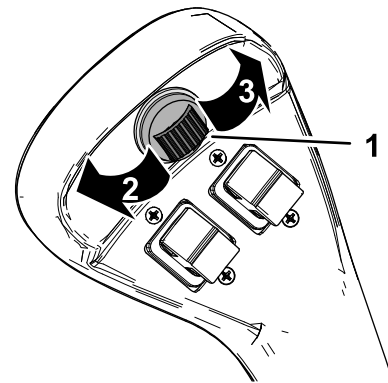

Figure 15
Use the secondary-attachment switch (Figure 15) to control certain optional attachments.
- Push the secondary-attachment switch to the right until it locks into position to run a hydraulic attachment in the forward direction (Figure 15). Use the primary-attachment switch to control the function; refer to Primary-Attachment Switch (page 15).